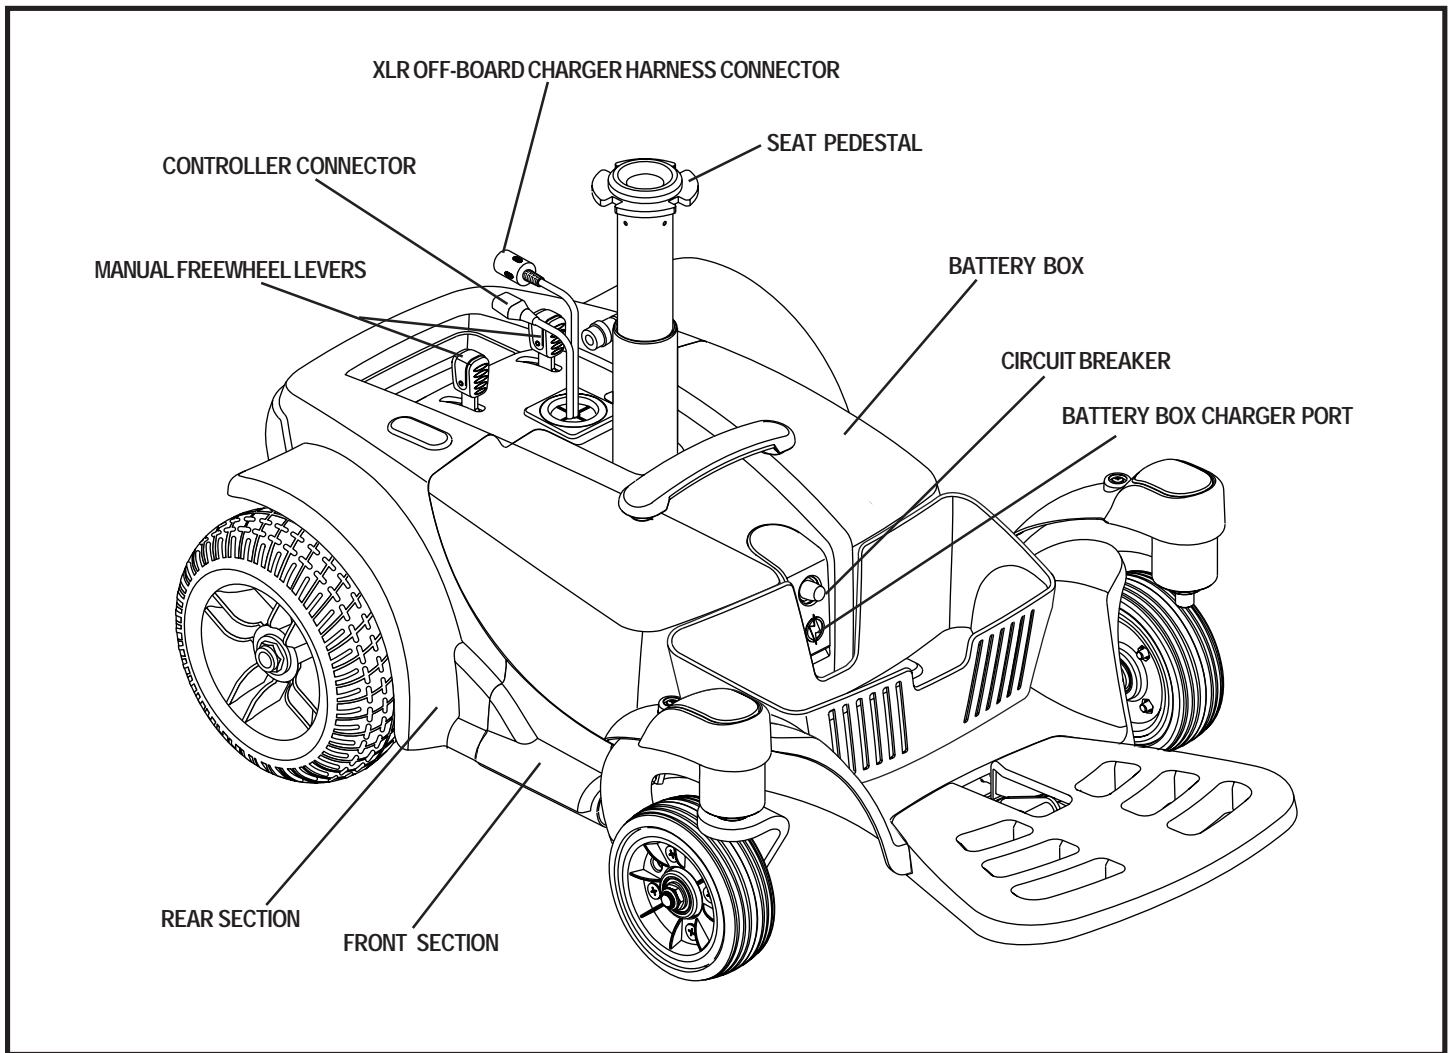

Figure 6. The Go-Chair Power Base
The electrical components are located on the power base. The main circuit breaker is located on the front of the battery box. The controller connector is located on the back of the power base. See figure 6.
4. Plug the controller connector into the power base. See figure 6.
7. Install the seat and plug the controller connector into the power base. See figure 6.